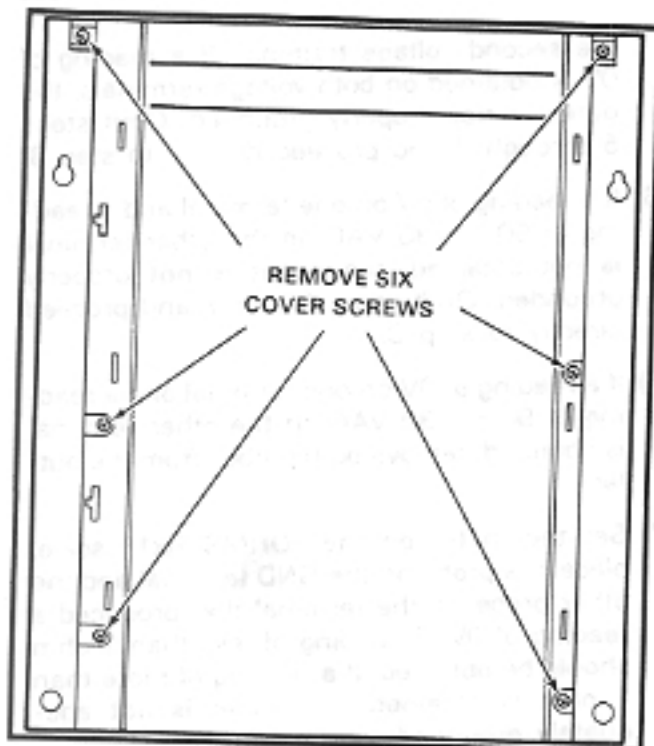

FIGURE 6—HKSU COVER REMOVAL
05.03 If any optional PCBs (SSTU, SEPU, STMU, SMOU, SPFU, SVCU, SDTU or SCOU/VCOU) are required, refer to Figure 6 and remove the HKSU cover as follows:
- 2) Remove three screws from each side of the HKSU per Figure 6.